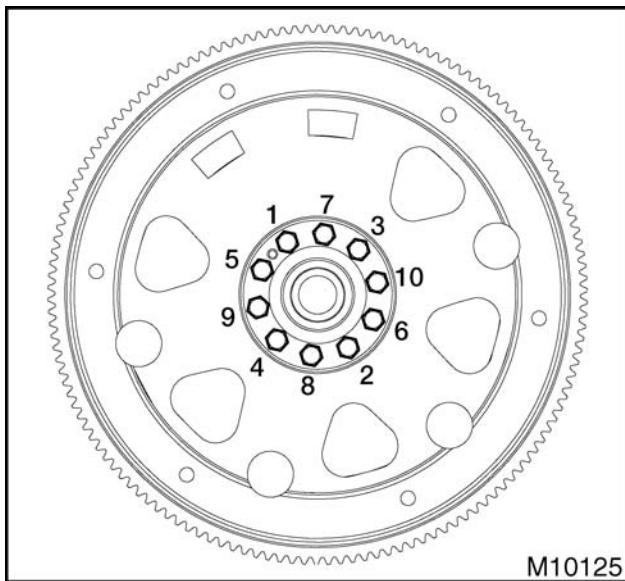

Figure 497 Torque sequence for flexplate assembly
4. Tighten all bolts in sequence shown (Figure 497) to initial torque of 4 N·m (35 lbf-in).
5. Tighten all bolts in sequence shown (Figure 497) to final torque of 94 N·m (69 lbf-ft).